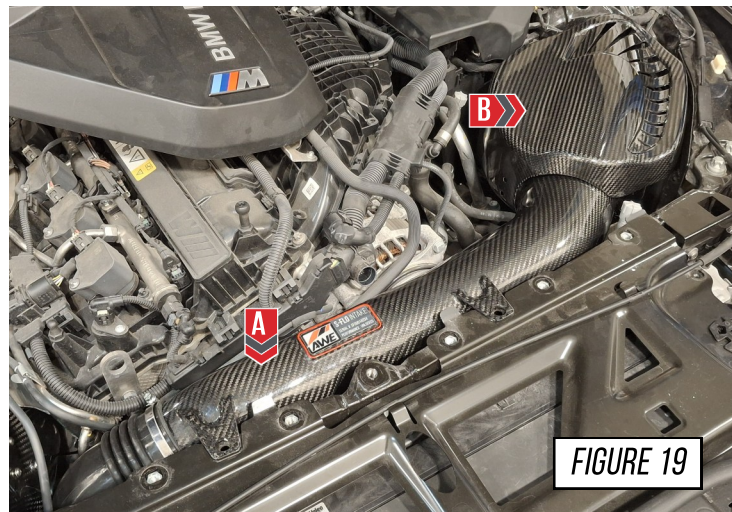

FIGURE 19
Install your driver side tube (A) and air box (B) by carefully lowering the tube into place. The clearance between the engine and tube is tight but will fit, as shown in **Figure 19**.